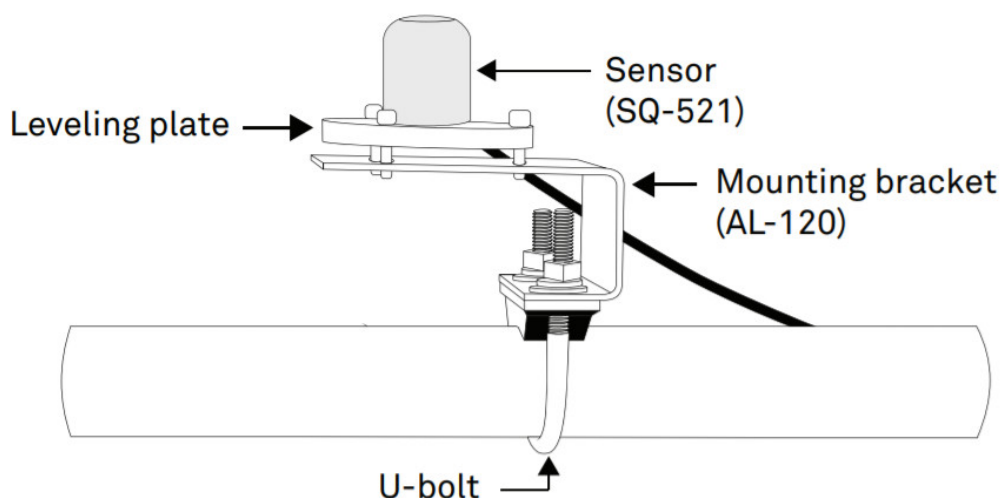

Figure 2 Apogee Quantum sensor mounting assembly
3. Mount the sensor to the leveling plate (Figure 2) with the included nylon screw.
5. Attach the mounting bracket either to a horizontal arm (Figure 2) or vertical post using the included U-bolt.